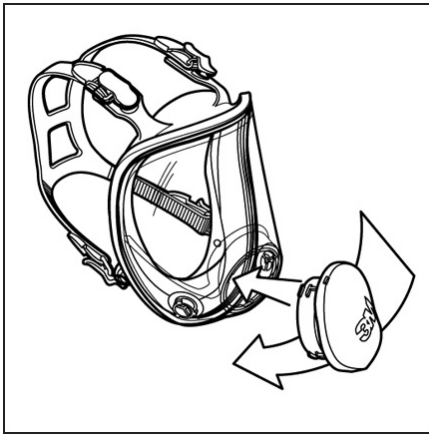

Fig. 12
2. Slide adapter into lens port. (Fig. 12)
4. Re-install center adapter into facepiece lens. (Fig. 12)
6. Install center adapter assembly. (Fig. 12)